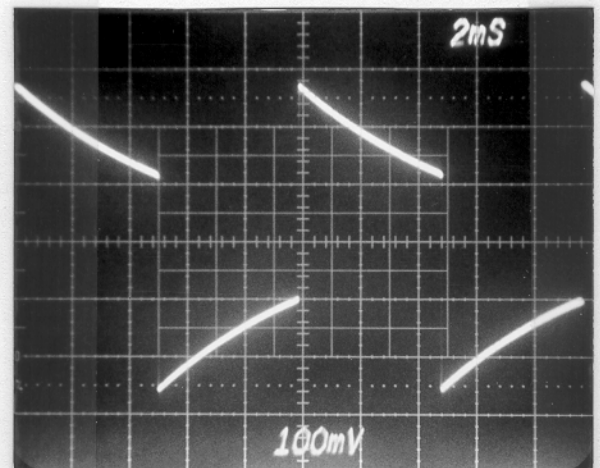

Fig. 16. Direct Out (J4) pins 2&3
- 3) Look at direct out (J4) pins 2,3 - compare to Fig. 16.